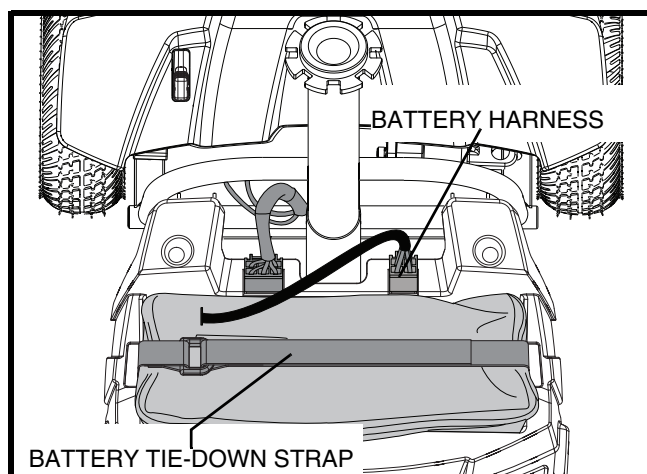

Figure 14. Battery Tie-down Strap
2. Disconnect the battery harnesses and tie-down strap then remove the battery pack from the Travel Scooter. See figure 14.